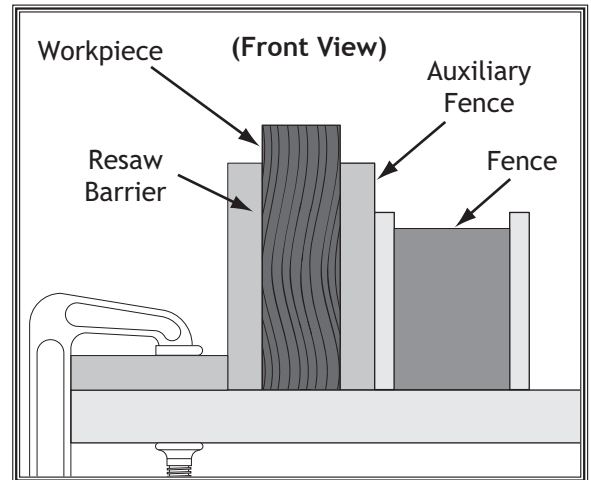

Figure 73. Example illustration of a resaw setup.
5. Place workpiece against auxiliary fence and slide resaw barrier against workpiece, as shown in **Figure 73**. Now clamp resaw barrier to top of table saw at both ends, making sure it is parallel to fence.